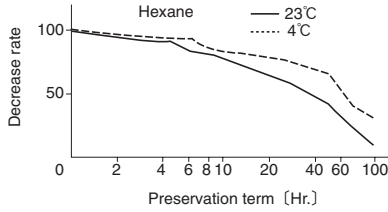

FIG.4.2 DECREASE IN A GLASS SYRINGE
- (1) Since the concentration of sample decreases with time depending upon the material and size of bag and the substance and concentration of sample, the sample shall be fed to the gas detector tube confirming the stabilization of the concentration based on the decreasing rate of it (see FIG. 4.2 and 4.3).